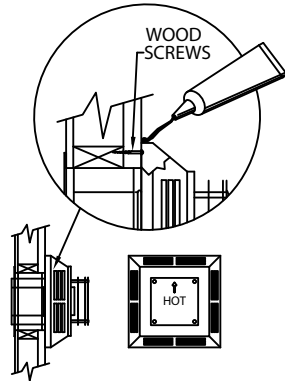

Figure 7
**Step 4.** Position the Horizontal Termination Cap in the center of the square framed hole, and attach to the exterior wall with the four wood screws provided. Before attaching the vent termination cap to the exterior wall, run a bead of non-hardening silicone sealant around it's outside edges to make a seal between the cap and the wall. The arrow on the vent cap should be pointing up. Ensure that proper clearances to combustible materials are maintained (**Fig. 7**).